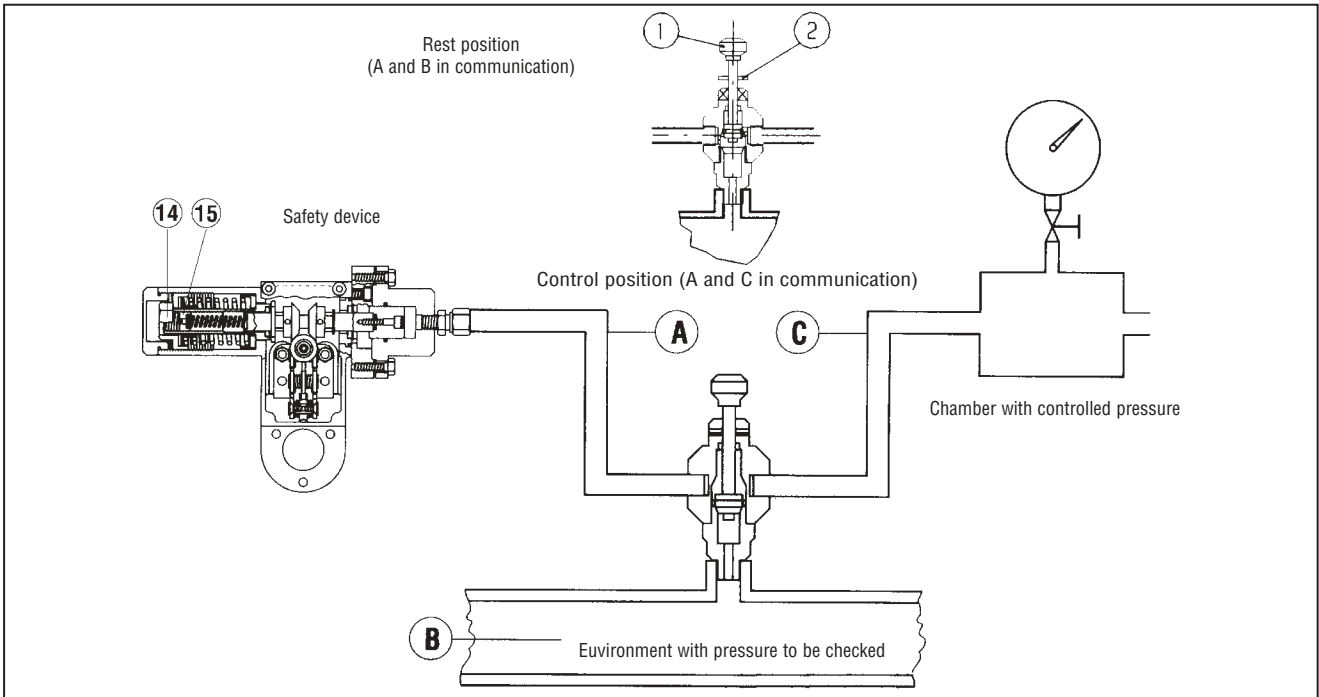

Fig. 21
A) For slam-shuts connected to the downstream piping by a three-way deviator push valve 11, proceed as follows (fig. 21):